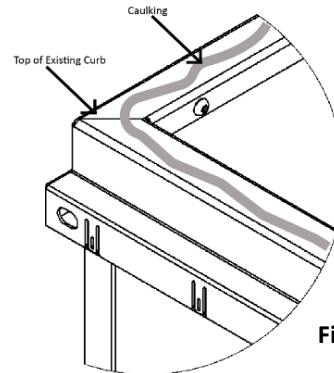

Figure 2
2. Clean top of existing roof hatch curb and apply a full bead of caulk all the way around the existing curb. **(Figure 2)**